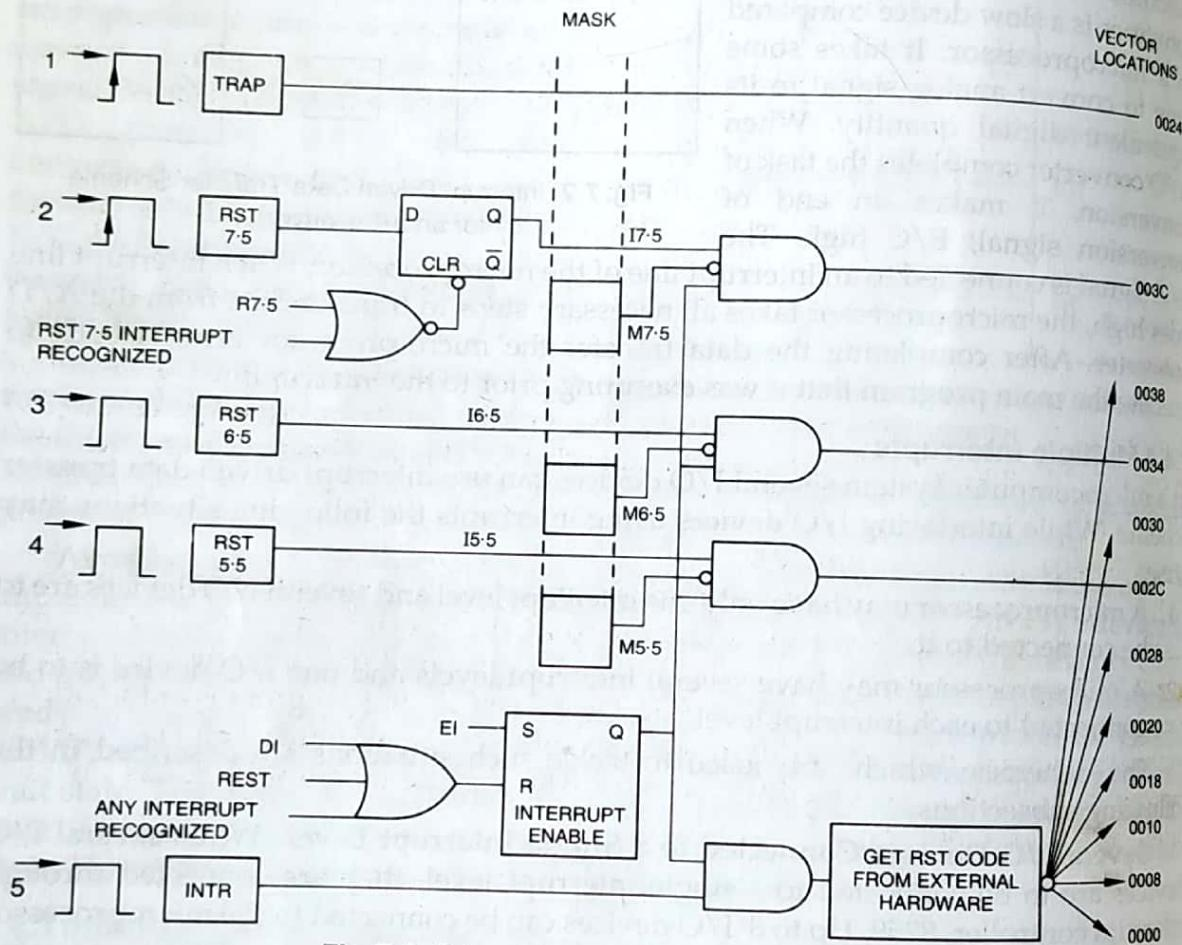

Fig. 7.8 Schematic Diagram of 8085 Interrupts
The Intel 8085 has five interrupt inputs namely TRAP, RST 7.5, RST 6.5, RST 5.5 and INTR. The TRAP has the highest priority, followed by RST 7.5, RST 6.5 and RST 5.5. The INTR has the lowest priority. When interrupts are to be used, they are enabled by software using the instruction EI (Enable Interrupt) in the main program. Figure 7.8
shows the schematic diagram of interrupts of Intel 8085. The instruction EI sets the interrupt enable flip-flop to enable the interrupts. The use of the instruction EI enables all the interrupts. The instruction DI (Disable Interrupt) is used to disable interrupts. In certain situations it may be desired to prevent the occurrence of interrupts while a particular task is being performed by the microprocessor. This can be done using DI instruction. The DI instruction resets the interrupt enable flip-flop and disables all the interrupts except nonmaskable interrupt TRAP, see Fig. 7.8. The system RESET also resets the Interrupt Enable flip-flop.
**Triggering Levels.** TRAP is edge as well as level triggered. This means that TRAP should go high and stay high until it is acknowledged. In this way false triggering caused by noise and transients is avoided. TRAP has also a flip-flop which is not shown in Fig. 7.8. The flip-flop is cleared when interrupt is acknowledged so that future interrupt may be entertained.